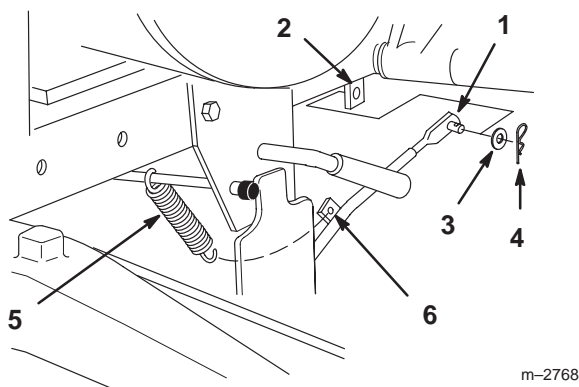

Figure 28
18. Unhook lift assist spring between snowthrower frame rod and tab on lift rod (Fig. 28).
19. Remove hairpin cotter, washer and lift rod from tractor lift arm (Fig. 28).